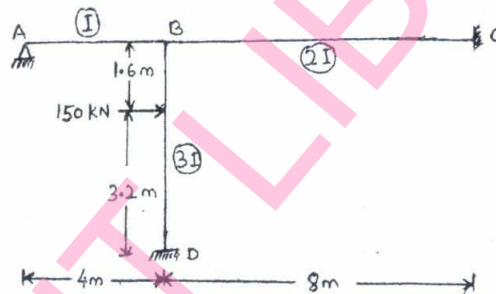

Fig.Q7 (20 Marks)
- 7 Using stiffness matrix method, analyze the frame shown in Fig.Q7. Draw bending moment diagram.